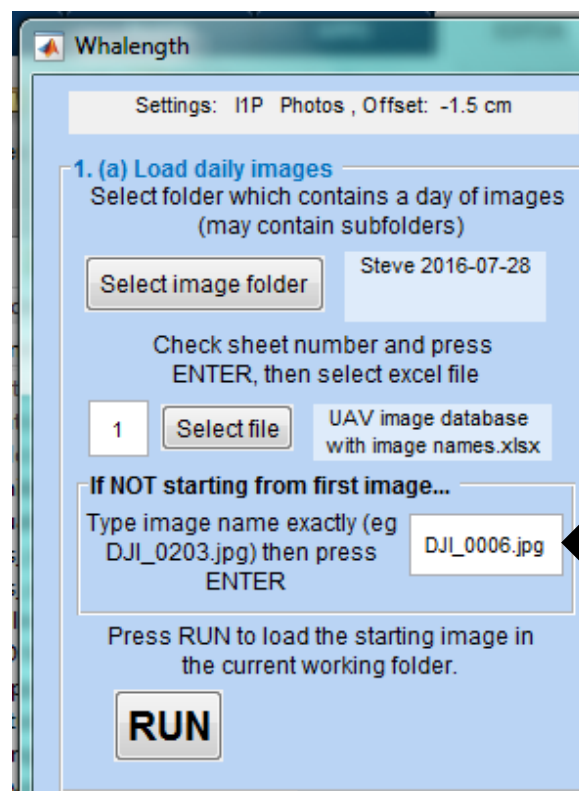

Figure 16.
2. Enter the image name including extension in the dialog box found in the panel labelled "If NOT starting from first image..." (see figure 16). After entering the name press ENTER. NOTE this is different to the previous version which required specifying the image number only.